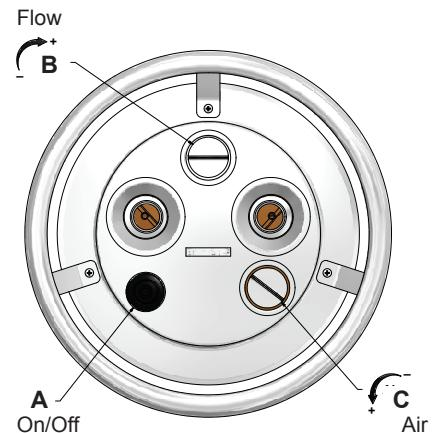

Figure 1.
8. Make sure that the pump's direction of rotations is consistent with that of the system. Open the valves. Completely fill the pump with water before starting it with the push-button(A fig.1) on the stainless steel front.
9. The flow can be controlled with the knob (B fig. 1) above the outlet nozzles. Air can be added to the water streams using the knob (C fig. 1) below the outlet nozzles.
9. The flow can be controlled with the knob (B fig. 1) above the outlet nozzles.
Air can be added to the water streams using the knob (C fig. 1) below the outlet nozzles.
The Jet Swim pump is started and stopped by air impulse via the pushbutton (A) on the stainless steel front; see figure 1.
The flow of water can be controlled using the knob (B) above the outlet nozzle; see figure 1.
Air can be added to the water streams using the knob (C) below the outlet nozzles; see figure 1.